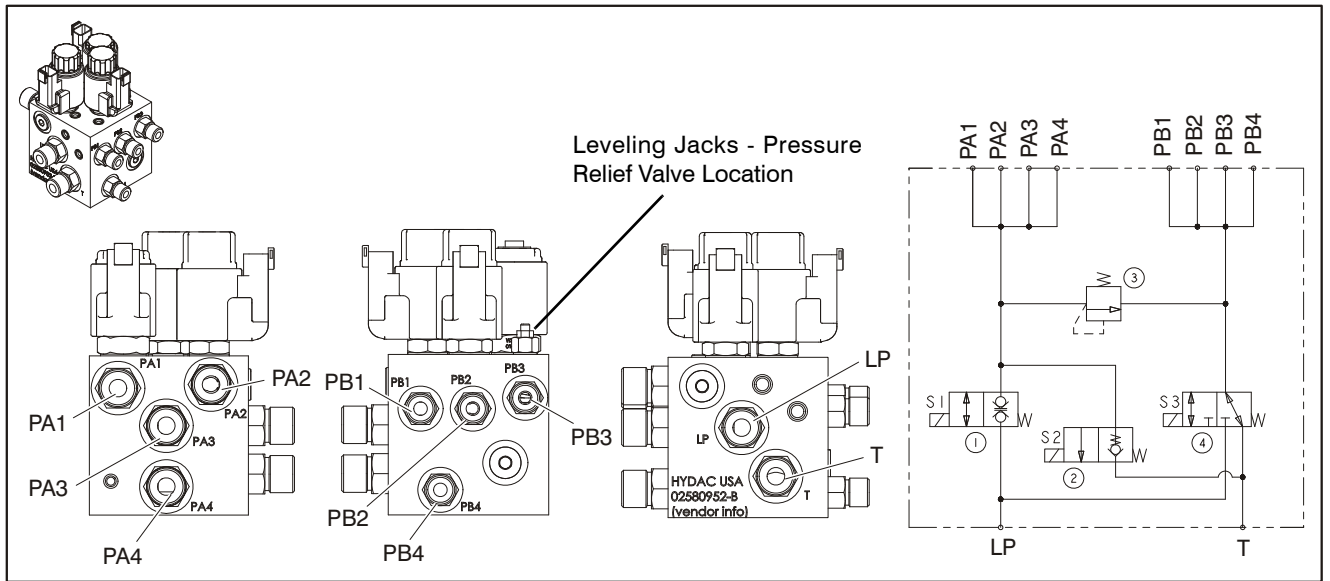

Figure 2-20. Leveling Jacks Directional Valve
4. Adjust the relief valve located on the leveling jack directional valve (refer to Figure 2-20.) clockwise to increase, counter-clockwise to decrease. (The relief valve is on the same face as the solenoid valves).